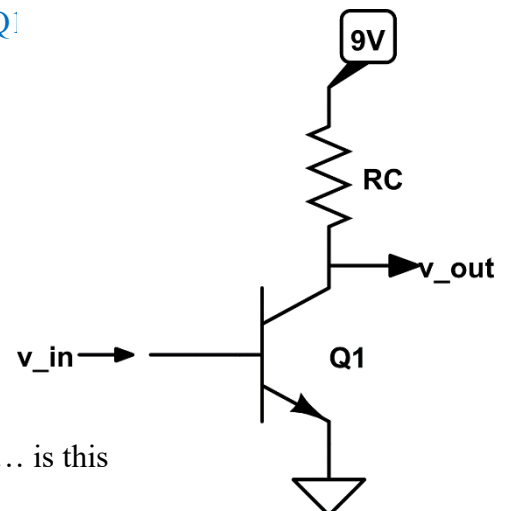

Fig 1:
Fig 1 shows the basic structure of a voltage amplifier circuit. In principle, since $I_c = \beta I_B \rightarrow V_{out} = V_{CC} - I_c R_C$ this is all you need to crack this lab assignment!
$$V_B > 0.7V \text{ since } V_E = 0 \text{ in Fig 1, but } V_E > 0$$
$$V_C > V_B \text{ i.e. } V_C > 0.7V \text{ in Fig 1}$$
- 2) If E is at GND as shown in Fig 1, only input impedance seen is $R_B = \beta r_E$ which is very small. So $\frac{v_{in}}{i_{in}} = R_B \rightarrow$ only very small v_{in} allowed to be amplified for a given i_{in}
3) What should V_E be, if it is to be? Is it OK to connect Q1-E terminal directly to GND as shown in Fig 1? Why not?